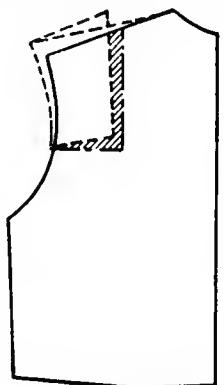

Fig. 34. For wider shoulders.
- A. For wider shoulders: Make an L-shaped slash on the front waist and back from the center of the shoulder to about  $\frac{1}{8}$  in. from the armhole notch. Spread the slash and relocate the shoulder line from the neckline edge to the top of the armhole (Fig. 34).